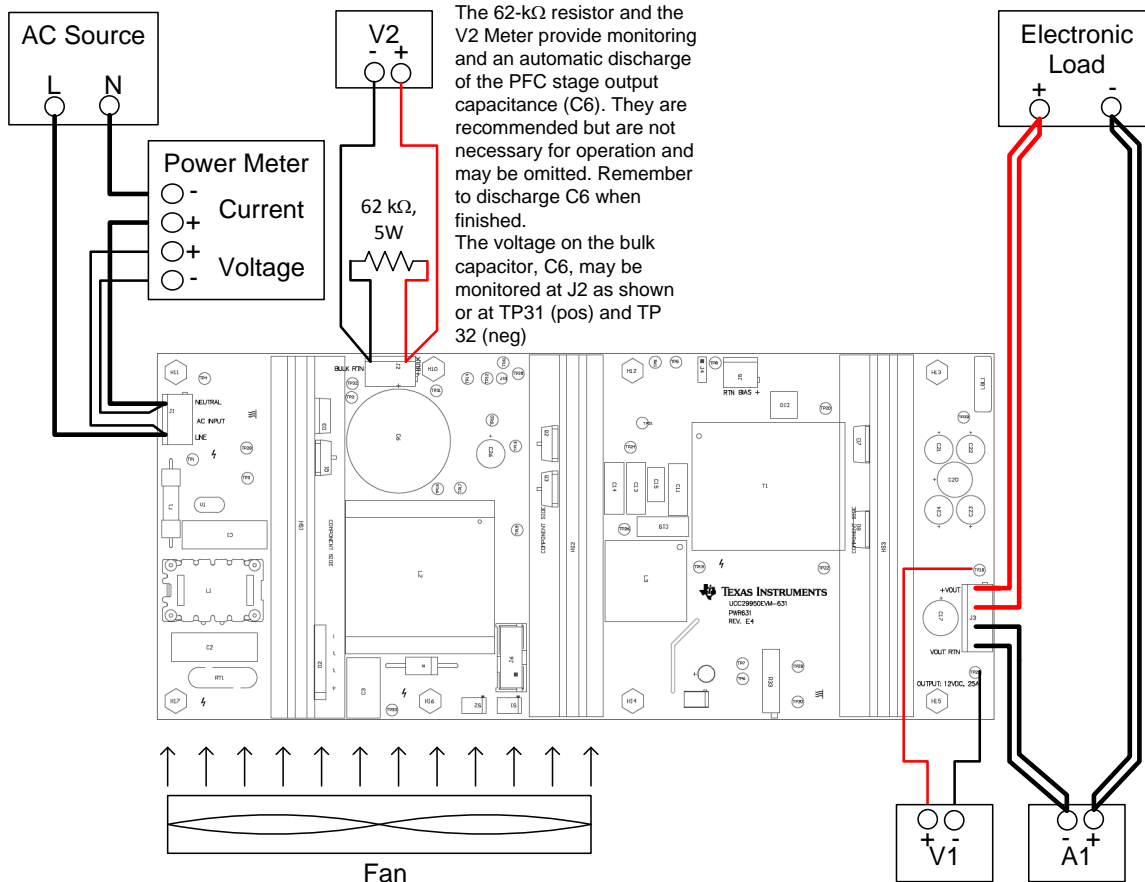
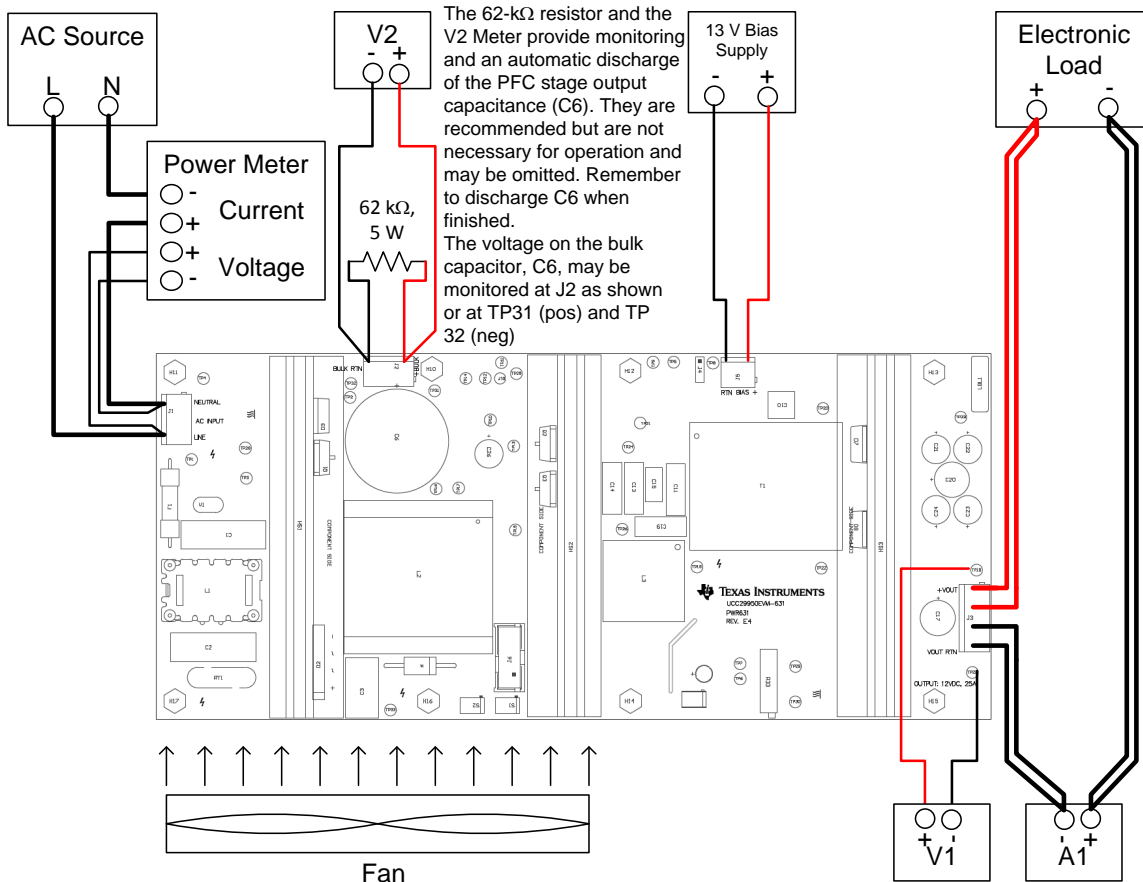

Figure 3. UCC29950EVM-631 Recommended Self Bias Test Set Up
Figure 4. UCC29950EVM-631 Recommended Aux Bias Test Set Up
Figure 3 shows the test setup recommended in order to evaluate the UCC29950EVM-631 in Self Bias Mode. Figure 4 shows the test setup recommended in order to evaluate the UCC29950EVM-631 in Aux Bias Mode.
**13-V Bias Supply:** The bias supply to the device shall be capable of supplying up to 13 VDC at no less than 100 mA. Connect the bias supply to the negative and positive terminals of J5, shown in Figure 3 and Figure 4.
**Output Load:** One Electronic Load (for example TDI RBL 488 600-40-800). A programmable electronic load set to constant current mode and capable of sinking 0 A to 25 A at 12 VDC shall be used. Connect the load to J3 as shown in Figure 3 and Figure 4.
**Fan:** A fan, capable of 200 LFM to 400 LFM, should be used to maintain component temperatures within safe operating ranges at all times during operation of the UCC29950EVM-631. Position the fan so as to blow along the length of the heatsink as shown in Figure 3 and Figure 4.
- (a) Connect the equipment as shown in Figure 3.
The following test procedure is recommended primarily for power up and shutting down the evaluation module in Aux Bias Mode. Never leave a powered EVM unattended for any length of time. Also, the unit should never be handled while power is applied to it. The UCC29950EVM-631 is set at the factory to operate in Aux Bias Mode, with an external bias supply as shown in Figure 4. Operation in Self Bias Mode, without an external bias supply is described in Section 5.3.
- (a) Connect the equipment as shown in Figure 4.
Use the test set up shown in shown in Figure 3 (Self Bias Mode) and Figure 4 (Aux Bias Mode) to test the load regulation of the EVM.